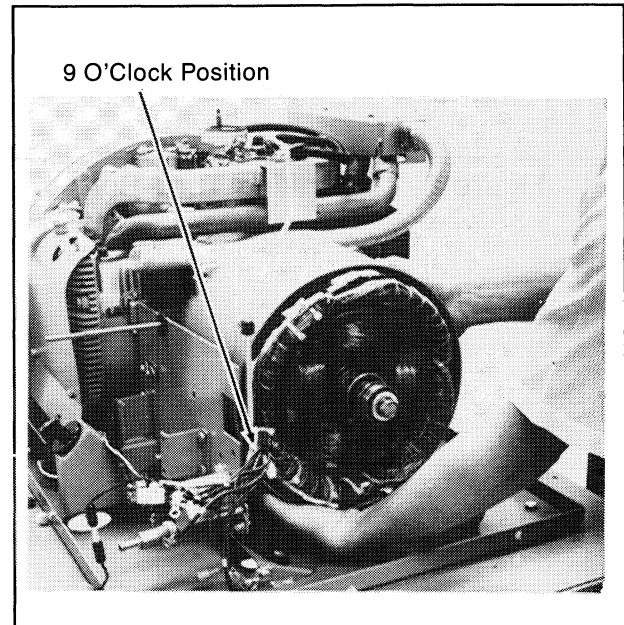

Figure 8-16. Proper Stator Position
4. Slide stator over rotor and onto adapter lip. Be careful to avoid damaging rotor. Rotate stator until stator leads are at 9 o'clock position. See Figure 8-16.